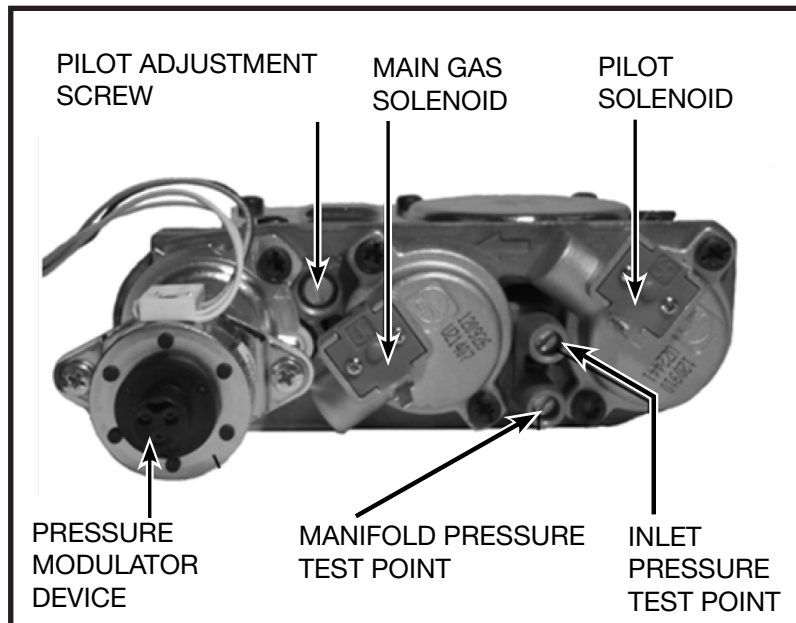

Figure 45: Gas control valve.
2. Locate the inlet and outlet test points on the valve which can be seen in Figure 45. After locating test ports loosen the screws within the ports using a flat-tipped screwdriver.
The pilot flame level can be adjusted by turning the adjustment screw, using a flat-tip screwdriver, seen on the valve in Figure 45.